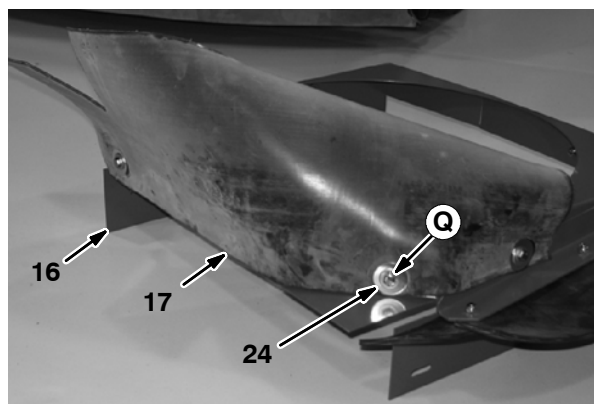

FIG. 5
2. Apply Loctite 242 to the saved hex screws (Q) and use the hex screws (Q) and three fender washers (24) to install the radiator debris skirt (17) onto the fan shroud panel (16). Refer to Fig. 5.